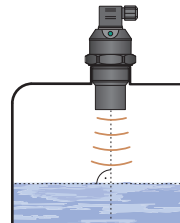

Fig. 1: Correct installation of the sensor, perpendicular to the liquid surface
a) The device is installed in a vertical position into the upper lid of the tank or reservoir using a lug, a fastening nut or a flange in such a way that the axis of the device is perpendicular to the surface level of the measured liquid (Fig. 1). Tightening of the level meter in the welding flange (or. by the fixing nut) is done by hand *. The device shall be installed in places with no risk of **mechanical damage to the front of the sensor**.